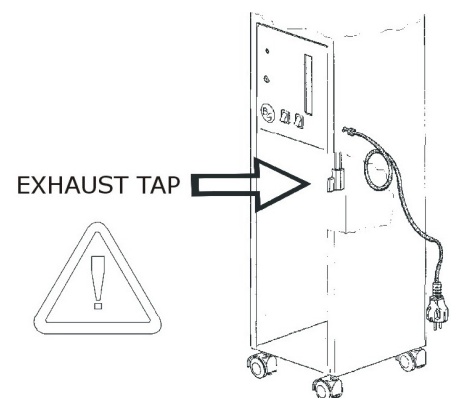

Fig. 7
3. Empty the boiler only when it is switched off and cold (not under pressure) taking care to open the exhaust tap slowly (fig. 7). For carrying out this operation, wear gauntlets against possible burns.
Unscrew the valve plug (fig. 4). Open the front panel and empty the boiler by means of the special tap (fig. 7). Once all the water has come out, remember to turn the tap off and to close the panel. The tap might get blocked up: in this case, take an iron wire with a diameter of 3-4 mm or similar and put it into the conduit in order get it unblocked.